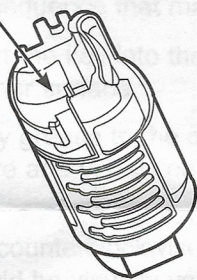

FIGURE 4
3. Apply grease to the actuator pocket located in the front of cylinder (D) (refer to figure 4).